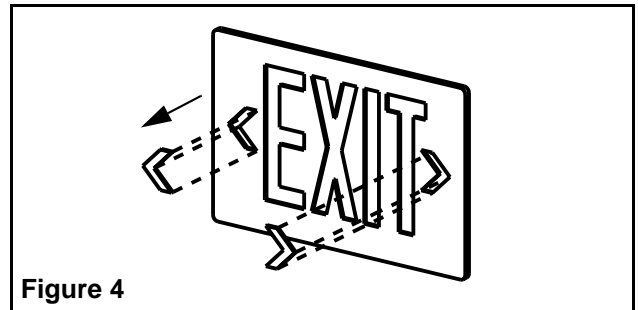

Figure 4
7. When required, lift the tip of the diffuser panel (3) to access the chevron to remove. Support the door around the chevrons with two blocks of wood. Strike chevron from the inside with a hammer and screwdriver (See Fig. 4).